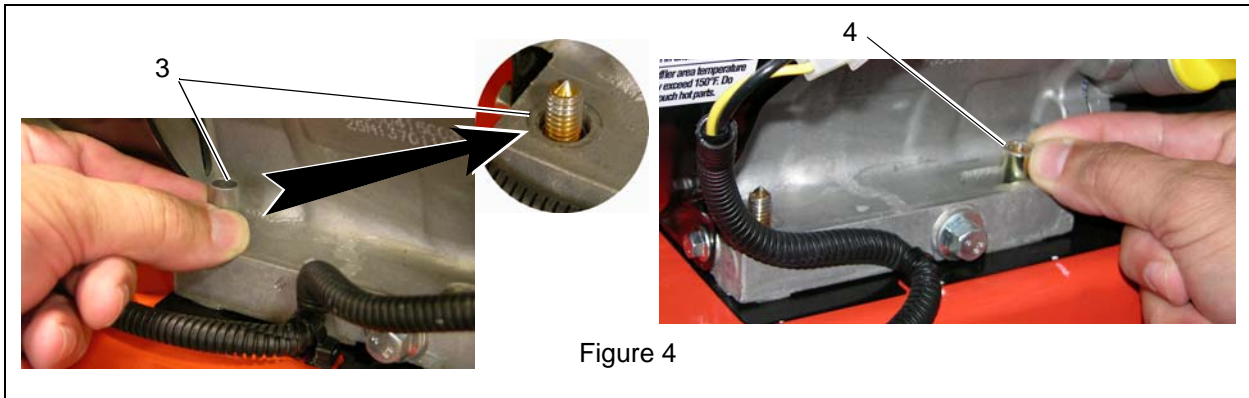

Figure 4
2. Install two silver thin-wall bushings (Item 3) over rear studs and slide down into engine base (Figure 4).
3. Install two gold thick-wall bushings (Item 4) over front studs and slide down into engine base (Figure 4).